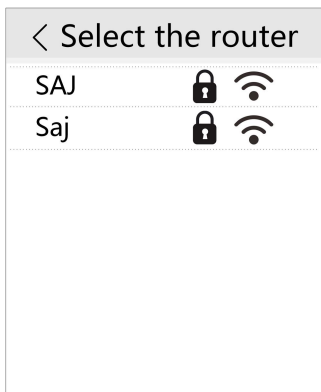
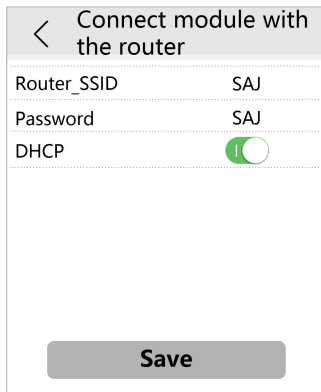

Figure 3-3
Figure 3-4
④ Configure the router : select a valid router from the router list (E.g.: SAJ) as shown in Figure 3-3 → Fill in “password” of the router → turn on “DHCP” (default: open) → “save” the settings as shown in Figure 3-4. → “Connected” successfully.